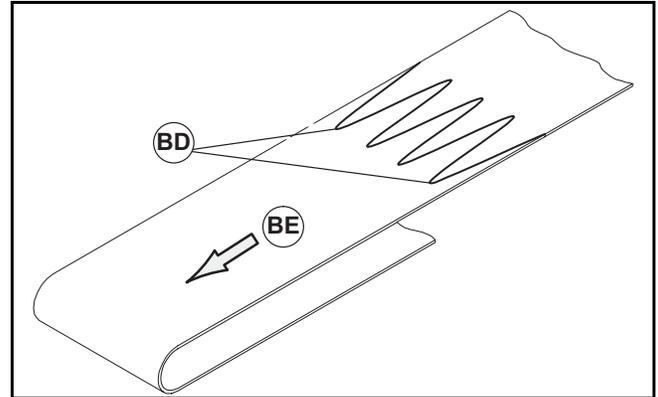
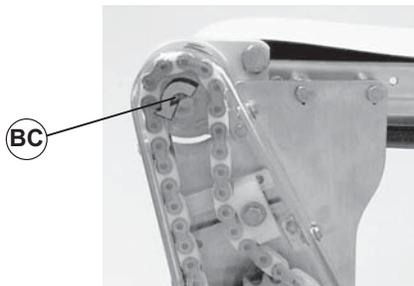

Figure 29
Figure 32
- Orient conveyor belt so the splice leading fingers (Figure 29, item BD) point in the direction of belt travel (BE).
On a flat belt conveyor, the wiper is installed on discharge end. Belt travel direction is identified by an arrow decal on the drive cover (Figure 32, item BC).
1. Orient conveyor belt so that the splice leading fingers (Figure 29, item BD) point in the direction of belt travel (BE) as identified by the label (Figure 32, item BC).